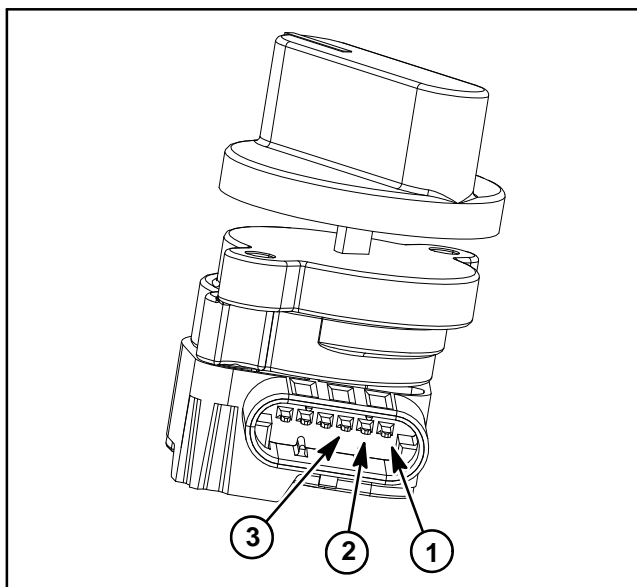

Figure 45
5. Using a multimeter, measure resistances between potentiometer terminals as follows (Fig. 45):